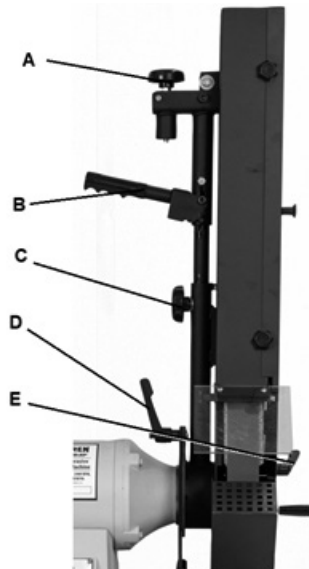

Figure 8. Handle identification
- Put handle B (Figure 8) into locking position by pulling down. The idler wheel lowers creating slack on the belt.
- Unlock Handle B (see Figure 8), to tension the belt.
- Using your hand to rotate the wheel, adjust the belt tracking using knob A (see Figure 8).